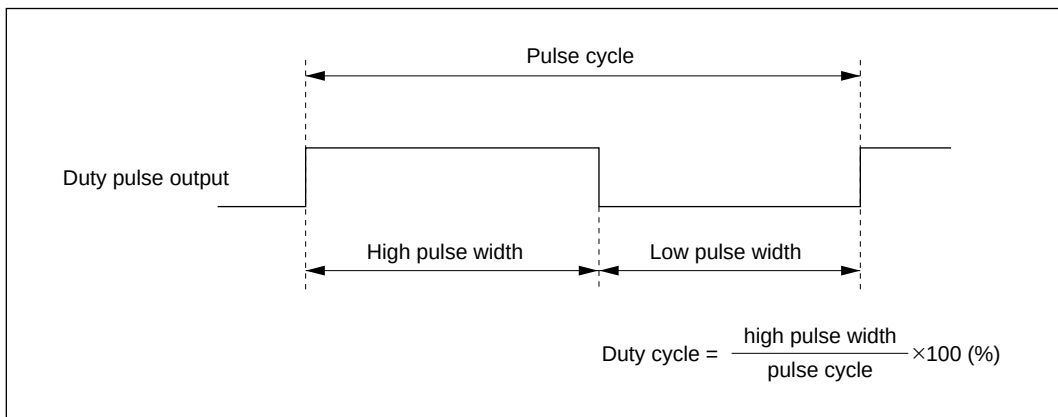

Figure 1 Duty Pulse Output Timing
1. This sample task outputs a pulse with variable cycle length and variable duty cycle as shown in figure 1.